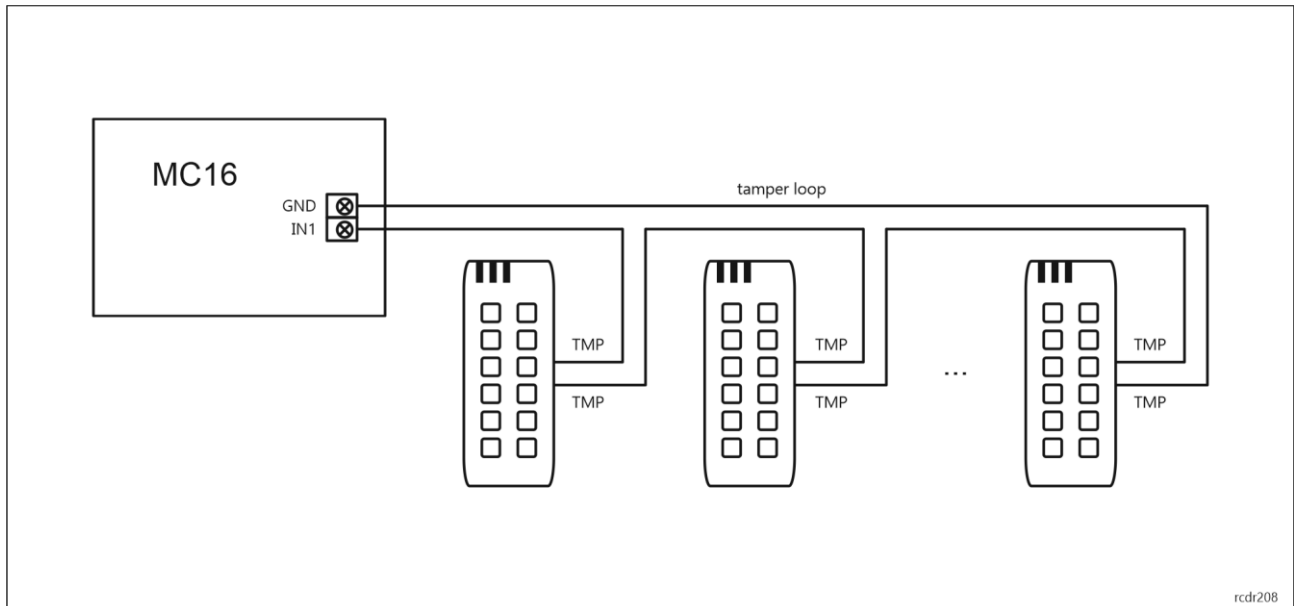
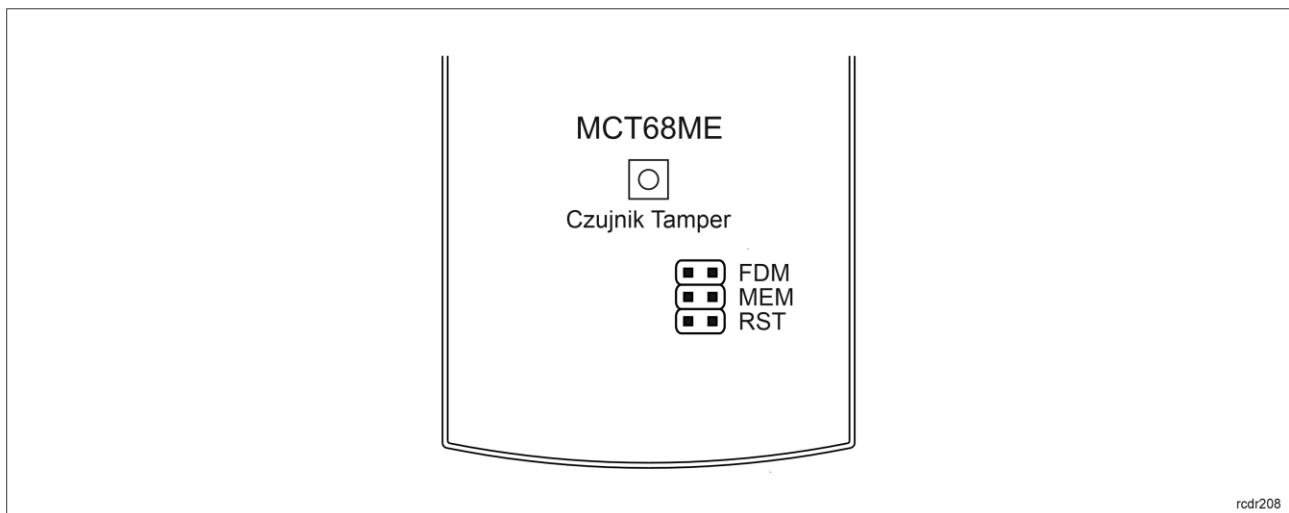

Fig. 3 Tamper loop example
Fig. 4 Programming jumpers
example in fig. 3. It is also essential to mount front panel in such way as the tamper detector (fig. 4) would firmly press the back panel.
- Front panel should be attached in such way as the tamper detector (fig. 4) would firmly press the back panel.
In RACS 5 v2 system the reader can be installed at site without previous configuration. According to AN006 application note, its address and other settings can be configured from VISO v2 management software and during such configuration the access to its service contacts (fig. 4) is not required.
2. Place jumper on MEM contacts (fig. 4)
2. Place jumper on FDM contacts (fig. 4).